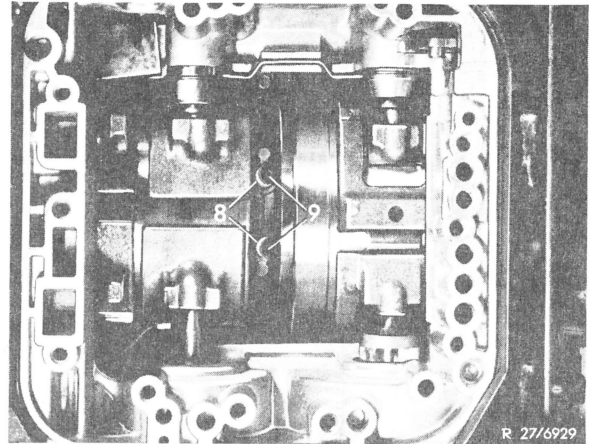

Fig. 75
**99** Insert both plug pipes (8) with new sealing rings (9) (Fig. 75).